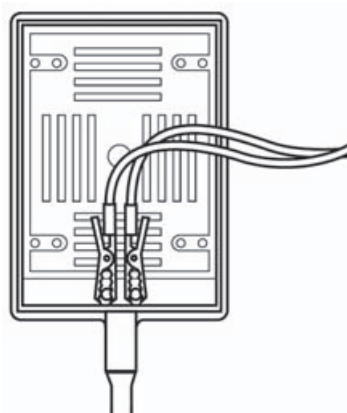

Figure 5-15 Transducer connector attachment
- b** Connect the red leads to the knurled socket cap screws on the transducer connector as shown in **Figure 5-15**.